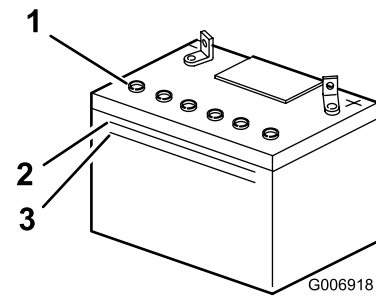

Figure 36
2. Look at the side of the battery. The electrolyte must be up to the upper line (Figure 36).
Note: Do not allow the electrolyte to fall below the lower line (Figure 36).
2. Remove the filler caps (Figure 36).
3. Slowly pour distilled water into each battery cell until the level is up to the lower part of the tube (Figure 36).